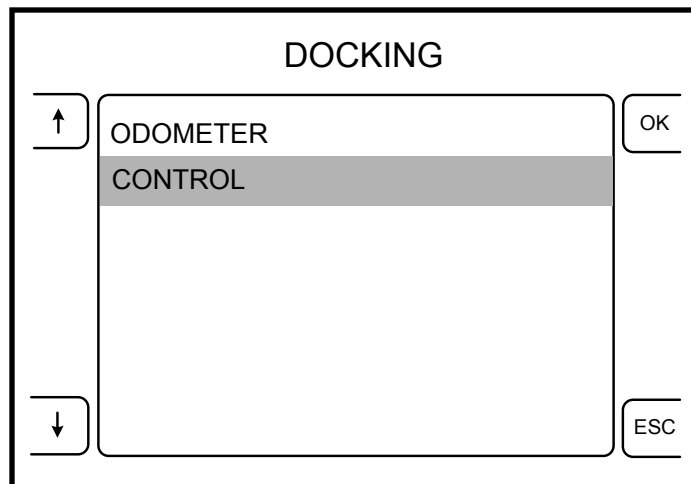

Figure 5: Select the DOCKING Option
5. Next, push the button next to the arrow icon (on the left side) to highlight the CONTROL option. Then press the button next to the OK icon to select the docking menu. (see figure 5)